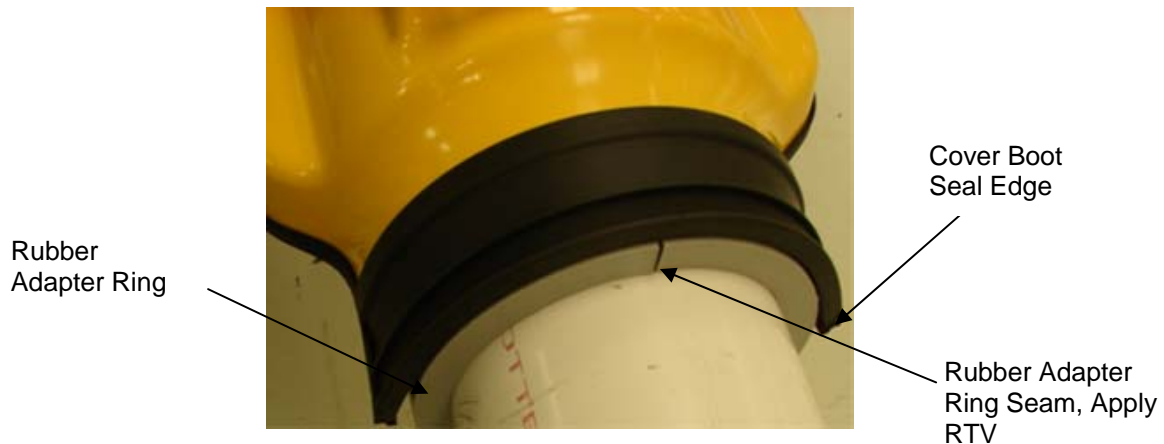

Figure 1 Cover with Spacer
For example, a fiberglass pipe may have an outside diameter of 15 inches due to the fiberglass material layup. In this case CiDRA would manufacture a custom sensor band to fit the pipe circumference. The sensor cover would be modified with the addition of a spacer in order to make a proper seal with the pipe. Figure 1 illustrates such a cover.
- a. Install such that the seam of the ring is 90° from the cover boot seal edge (Figure 1).